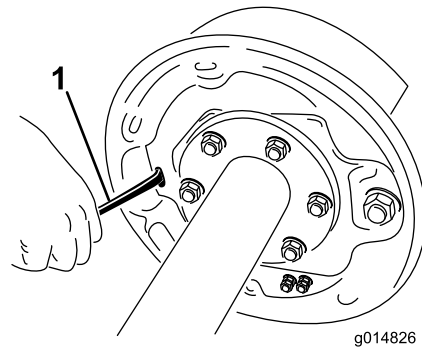

Figure 2
4. With a screwdriver, rotate the star wheel of the adjuster assembly to expand the brake shoes (Figure 2).